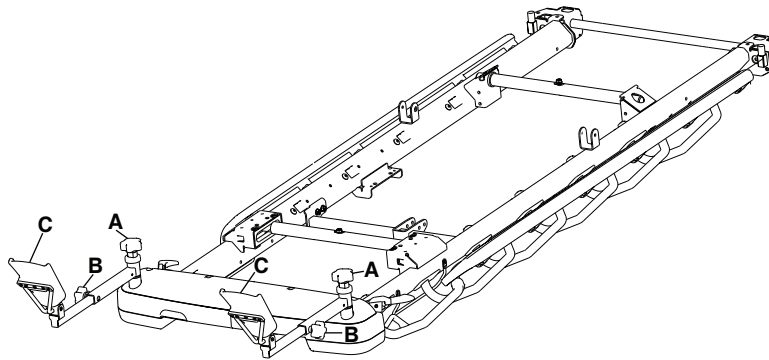

Figure 24 – Positioning the foot supports
1. Loosen the knee knob (A) at the top of the foot supports to adjust the side-to-side angle of the foot supports (Figure 24).
2. Tighten the knee knob (A) to lock the foot supports in the desired position.